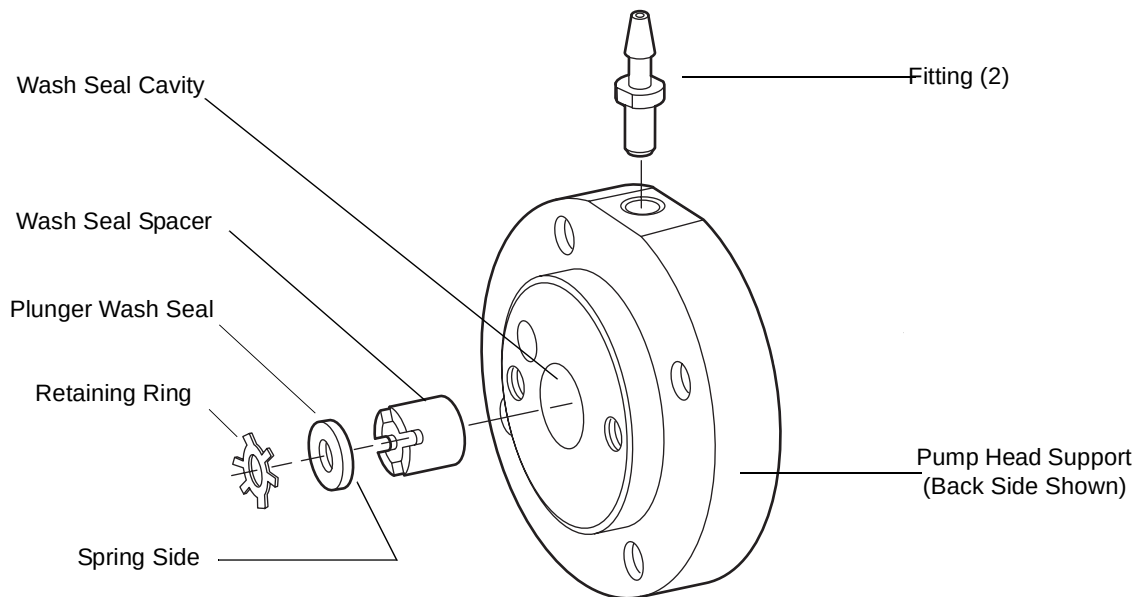

Figure 2-3 1525 Analytical Head Support Components
Note: You can identify the back side of the pump head support by its larger wash seal cavity. Figure 2-3 shows the back side of the pump head support.
14. Insert a tube fitting, barbed end out, into each hole on the edge of the head support. Slide the tubular end of the wash fitting installation tool over the fitting and press down until the fitting flange is firmly seated against the flat area on the head support edge (Figure 2-3).